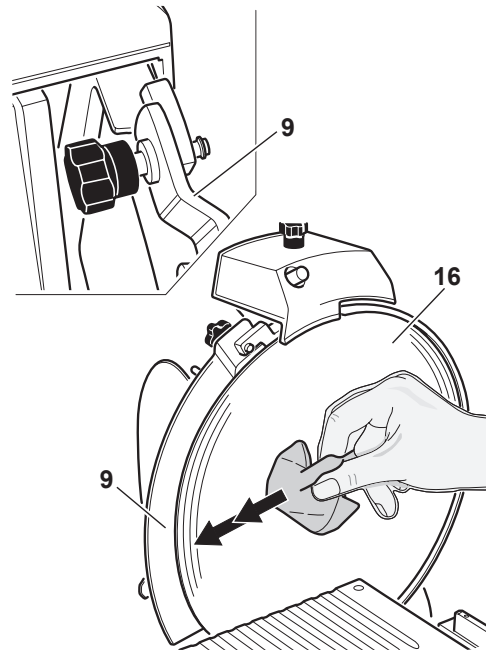

Figure 14-3
3. Place all removable parts in a three compartment sink with warm water and a mild detergent solution; soak, clean, and thoroughly scrub all surfaces using a solution of mild detergent and warm water. Removable parts include: product holder, pusher, slice receiving tray and knife sharpener. Use a soft spongy cloth and, if necessary, a nylon brush for the spiked areas of the product holder (4) and pusher (3).
ALWAYS clean the knife (16) with the knife guard (9) fitted behind it in the safety position (Figure 14-3).
5. Carefully wash and rinse the top and bottom of knife (16) by wiping from the center of knife outward.